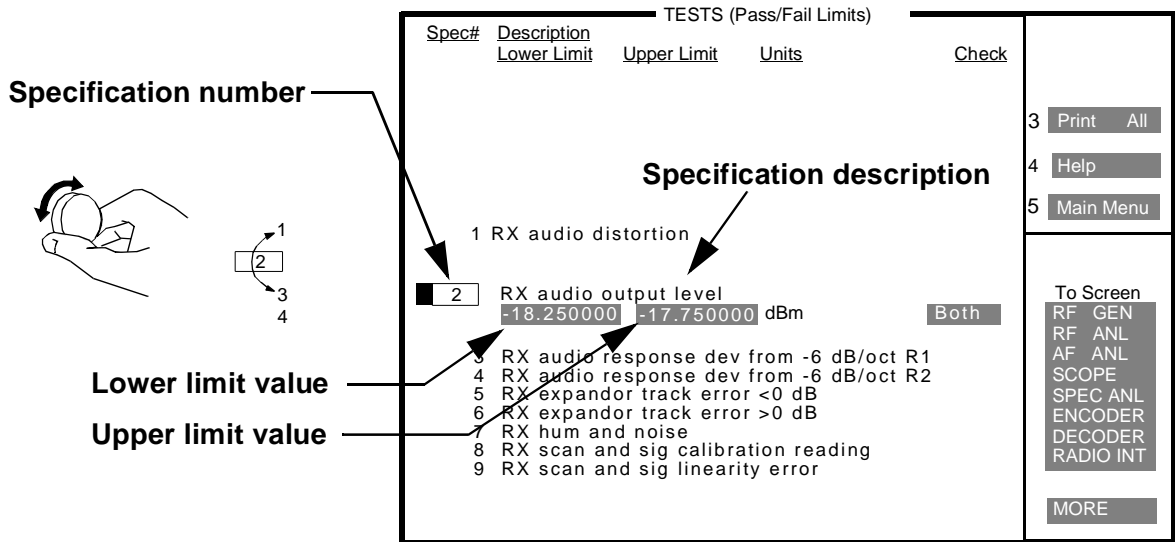

Figure 19
- Position the cursor and select the specification number (**Spec#**) field. This field becomes highlighted (see figure 19). Rotating the CURSOR CONTROL knob while this field is highlighted allows you to scroll through the list of specification numbers. Each specification number has an associated description and pass/fail specification, that is, a lower and upper limit value.